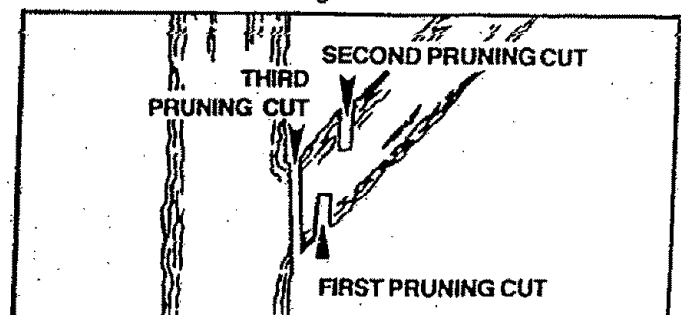

Figure 29
- Refer to Figure 29 for the pruning technique.